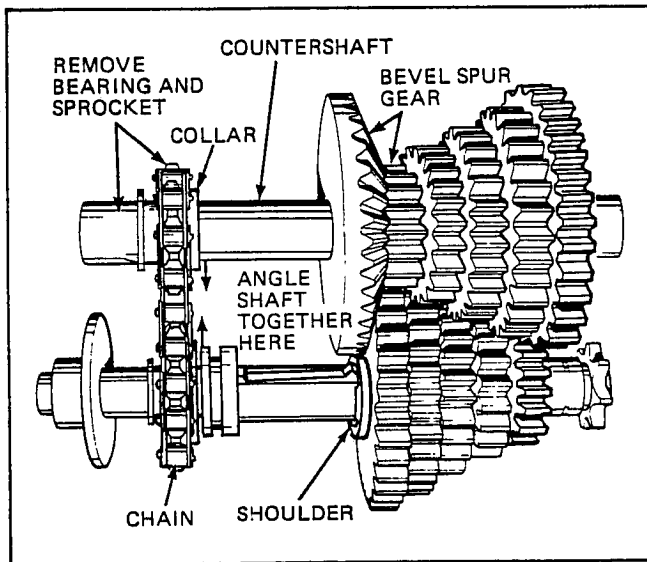
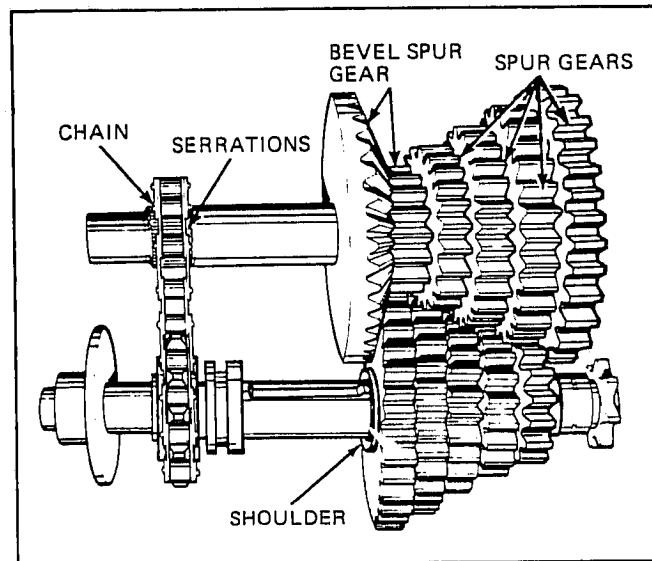

Figure 2-44
Figure 2-45
6. Angle chain and sprocket ends of shaft toward each other, removing the bearing and sprocket from the countershaft. See Figure 2-44. Note the collar on the sprocket faces the bevel gear. Remove chain. See Figure 2-45.